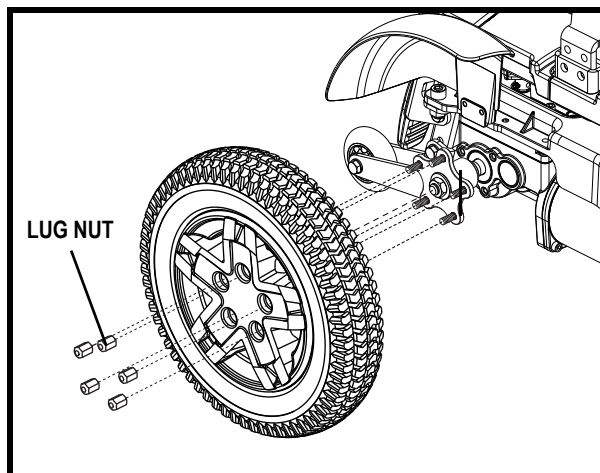

Figure 24. Lightning Drive Wheel
4. Remove the (5) lug nuts from the wheel hub. See figure 24.